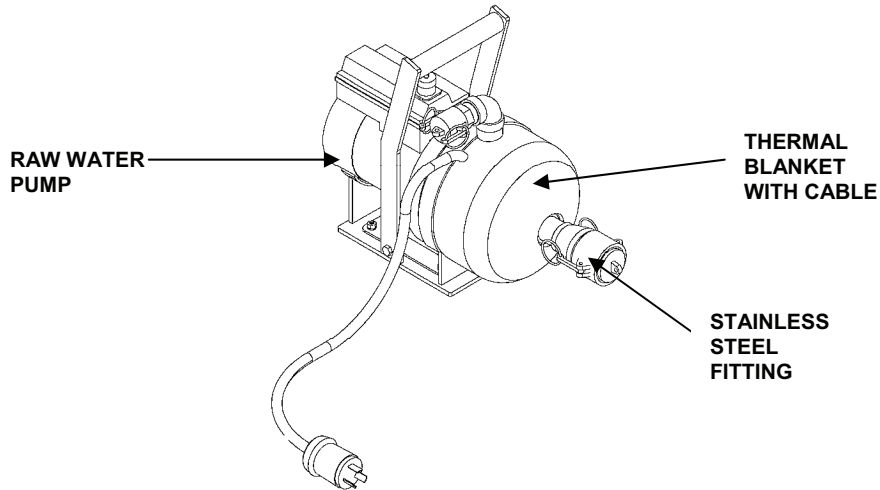

Figure 2. Raw Water Service Pump Electric Thermal Blanket.
8. Wrap the pump thermal blanket on raw water pump. See Figure 2.